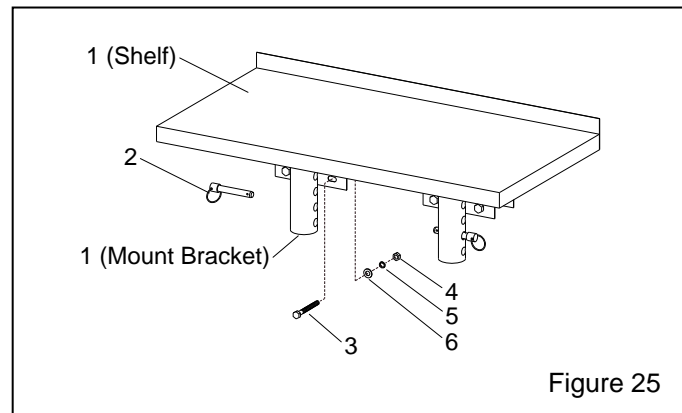

Figure 25
9.7 Foot Shelf Assembly, Figure 25